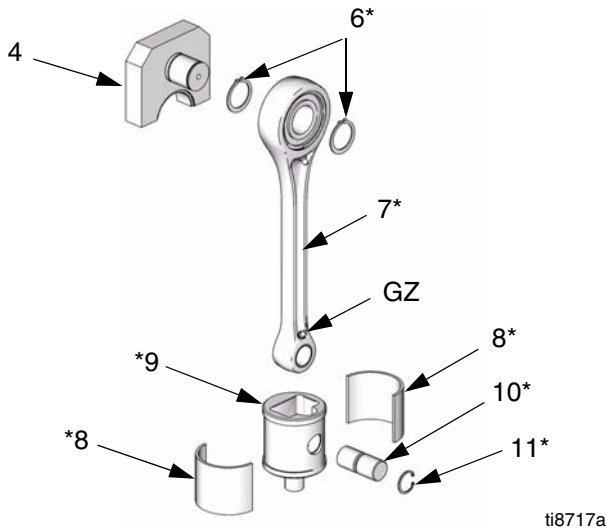

FIG. 4. Drive Linkage Assembly
1. See FIG. 4. Orient the new connecting rod (7*) and slider piston (9*) as shown. Assemble the crank arm (4), retaining rings (6*), pin (10*), and retaining ring (11*).